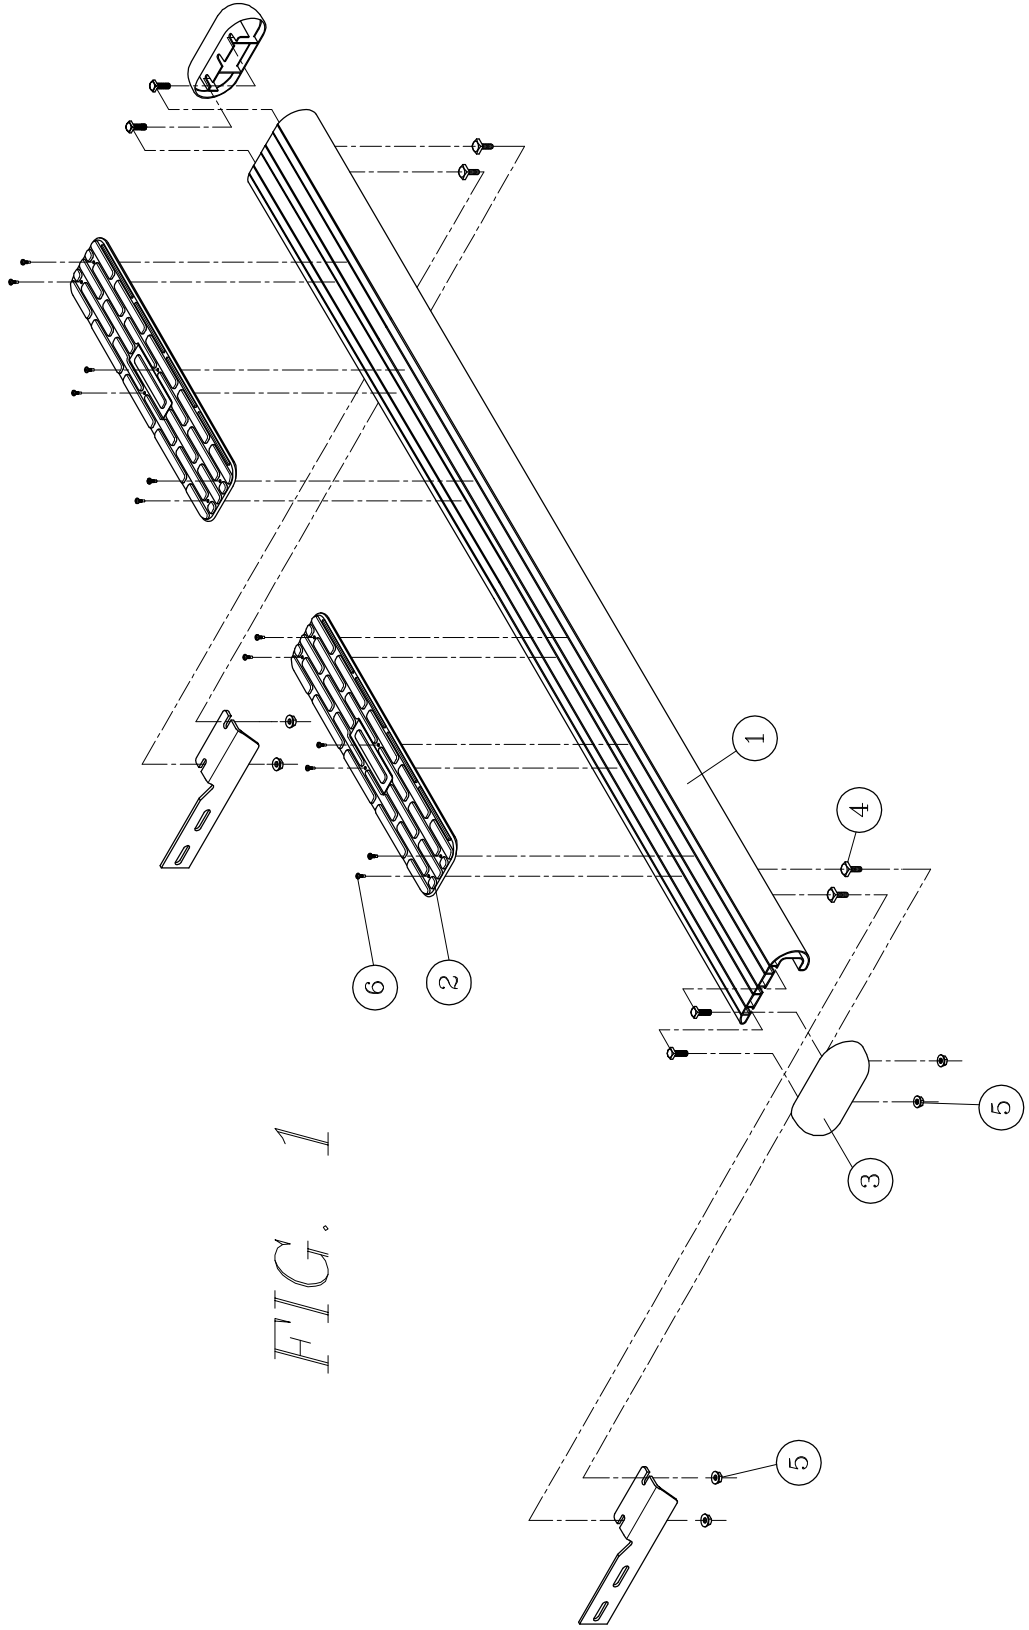

FIG. 1
5. INSTALL THE END CAPS (ITEM #3) AS SHOWN IN (FIG.1), TIGHTENING THE SERRATED NUTS (ITEM#5) TO 5 LB FT.